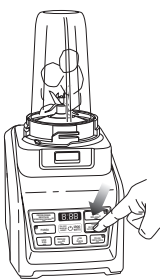

Fig. 4
- 6 Holding the Stacked Blade Assembly by the top of the shaft, place it onto the drive gear inside the pitcher. Ensure that the Stacked Blade Assembly is seated properly and is standing upright. (Fig. 4)
- 6 Press the power button on, and select the speed or Auto-iQ program that suits your needs. (Fig. 4) The Auto-iQ program will stop the appliance automatically at the end of the program.